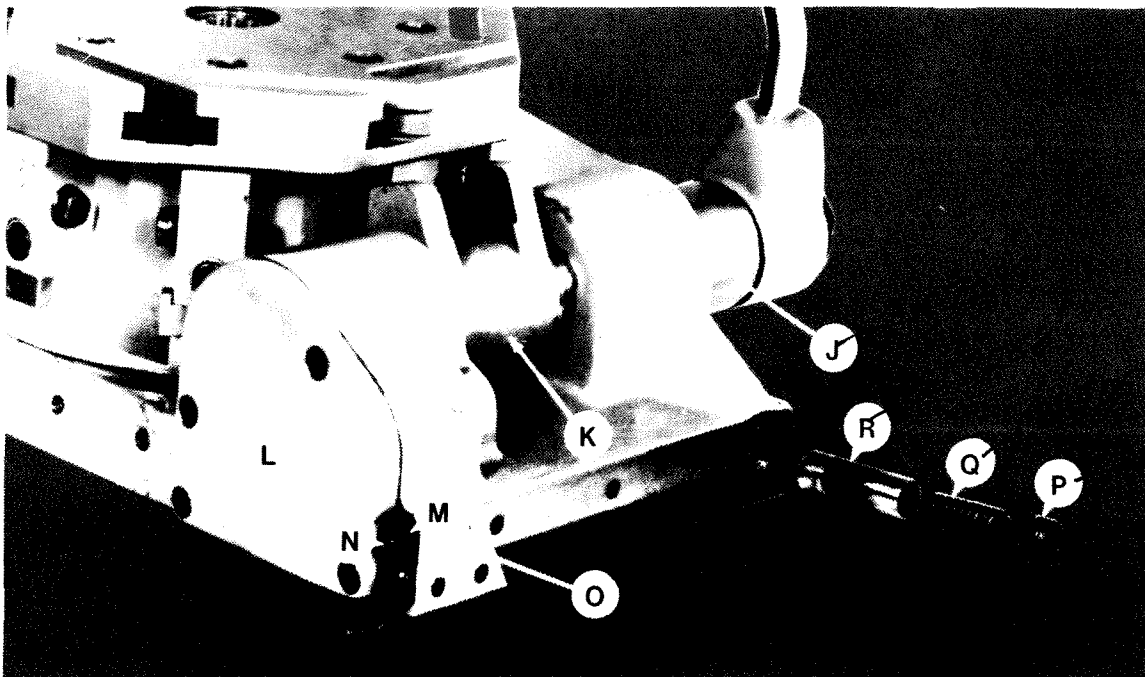

Figure 2.29 - Index Lever and Lock Assembly
13. Remove plug "P", spring "Q", and plunger "R", Figure 2.29 .
16. Loosen nut "M" and remove screw "N", Figure 2.29 .
17. Remove plug "O", Figures 2.29 and 2.32 .
Use a pointed punch in the center drilled hole to remove shaft "J", Figure 2.29 and 2.34 .
21. Remove index shaft "J" and fork "K", Figure 2.29 .
4. Position fork "K" and replace shaft "J", Figure 2.29 .
11. Replace screw "N" and lock nut "M", Figure 2.29 .
18. Apply Permatex sealant to cover "L", Figure 2.29, and remount the cover.